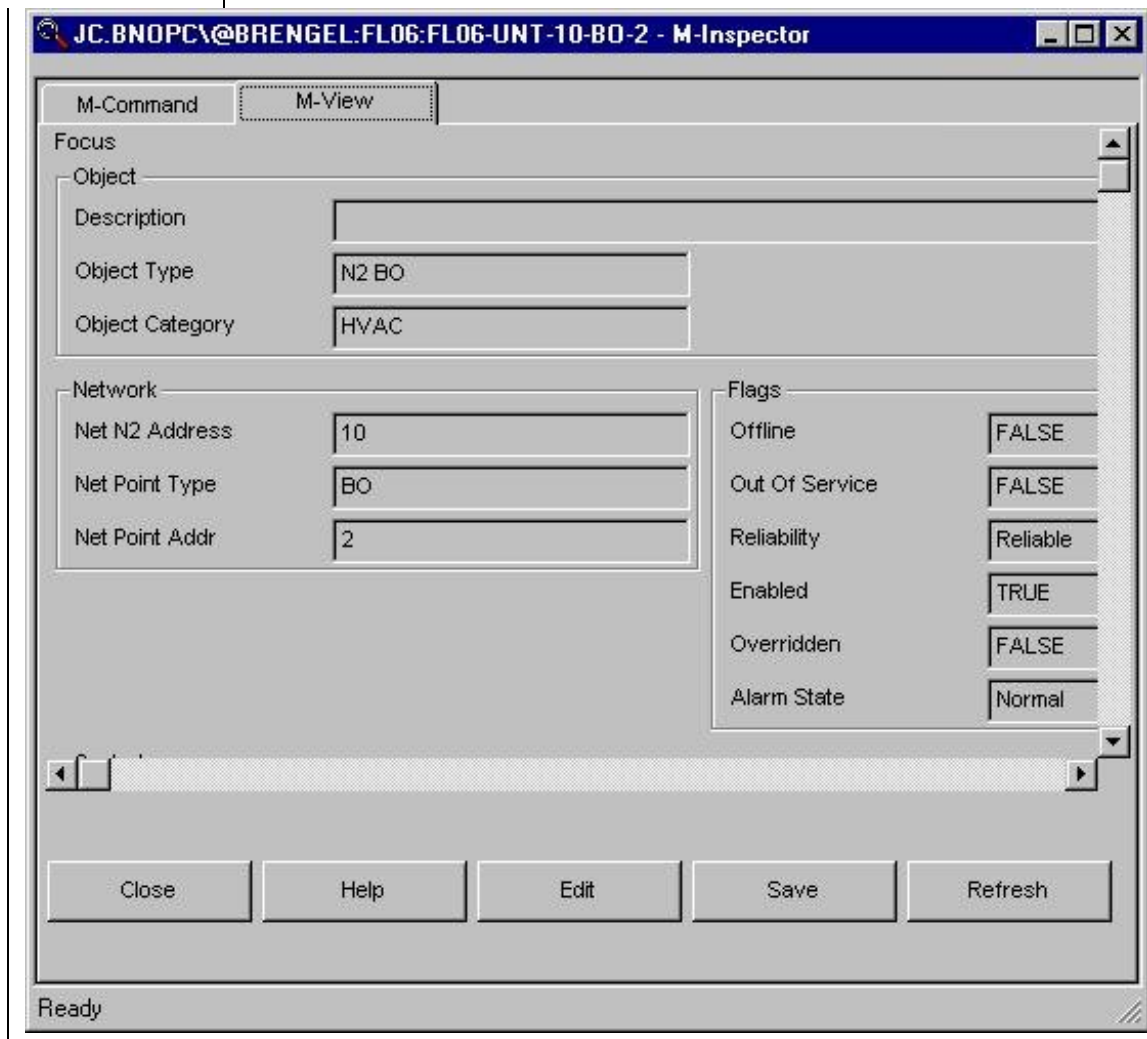

Figure A-6: M-Inspector Window with M-View Tab Visible
3. Click on the M-View tab. The M-View tab appears in the M-Inspector window (Figure A-6).
3. Click on the M-View tab. The entire M-View tab appears in the M-Inspector window (Figure A-6).